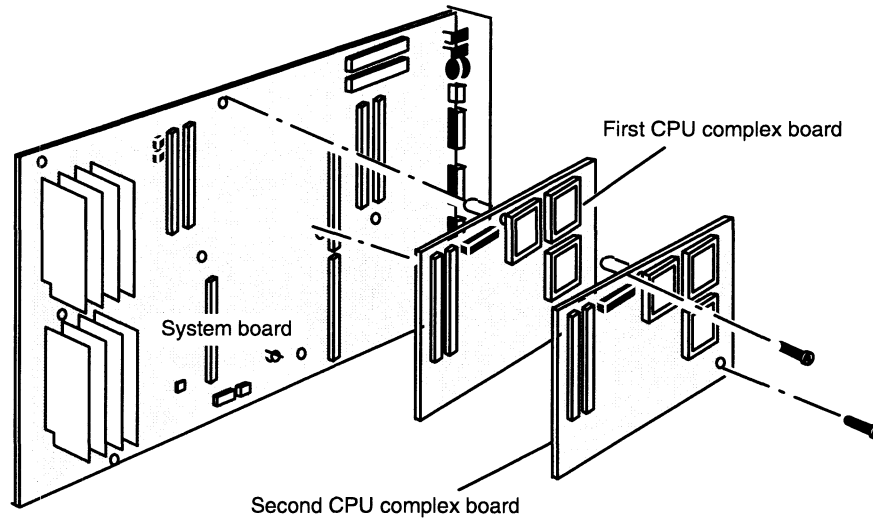

Figure 9-9 Securing CPU Complex Boards to the System Board
2. Secure the CPU complex board(s) to the system board with the two screws as shown in Figure 9-9.